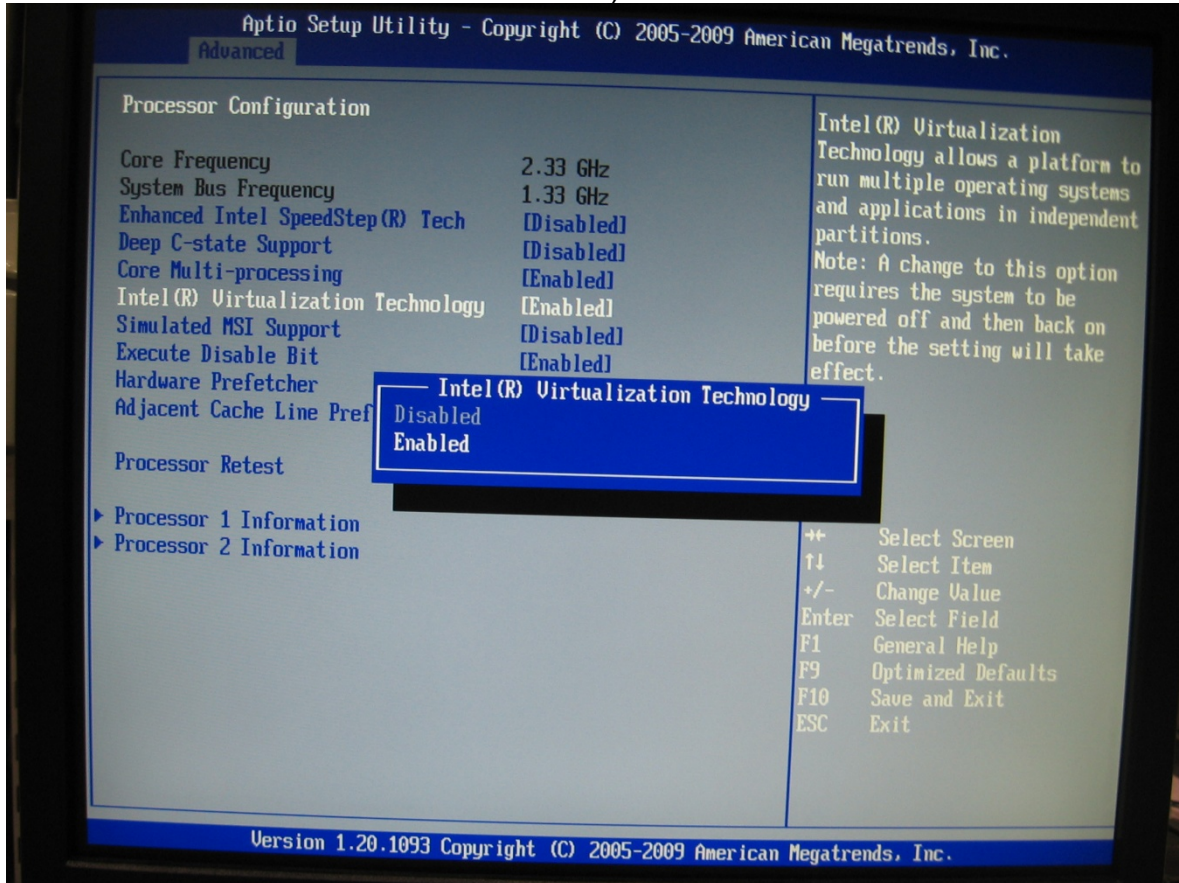

Figure 6-18 Intel Virtualization Technology
8. In **Intel Virtualization Technology** drop down menu select **Enabled** and press **Enter**. (Figure 6-18).